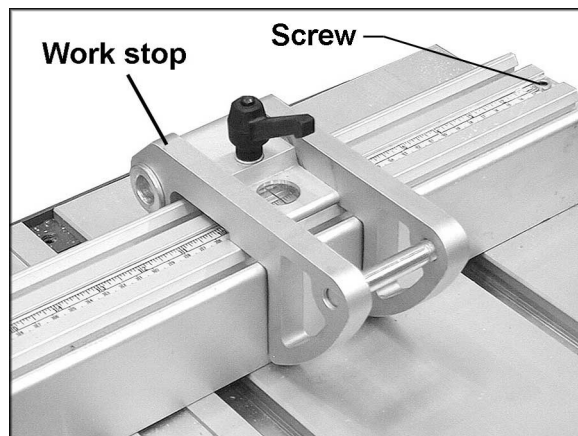

Figure 26
1. Put the stop (Figure 26) at a certain measure and cut off a sample.
2. Measure the exact length of the sample. Loosen the screw (Figure 26) which holds the scale and move the scale until the measurement corresponds to the length of the previously cut sample. The main part of the fence is now calibrated to the saw blade.